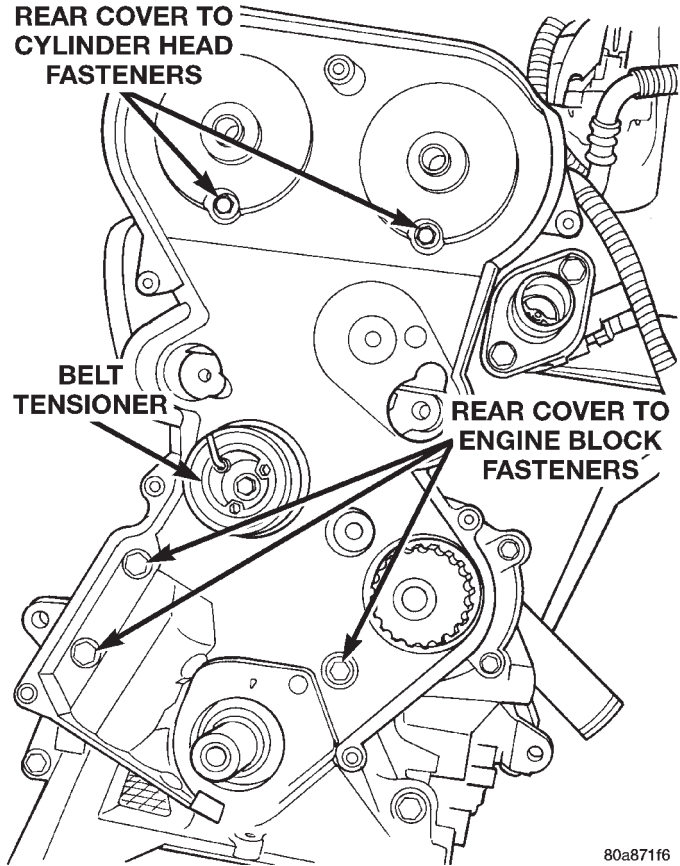

Fig. 57 Rear Timing Belt Cover Fasteners
- (3) Remove timing belt idler pulley.
- (4) Remove both camshaft sprockets. Refer to procedure in the section.
- (5) Remove rear timing belt fasteners and remove cover from engine (Fig. 57).
- (1) Install rear timing belt cover and fasteners (Fig. 57).
- (2) Install timing belt idler.
- (3) Install camshaft sprocket and timing belt. Refer to procedures in this section.
- (4) Install engine mount bracket.
- (5) Install front covers. Refer to Front Cover installation procedure in this section.